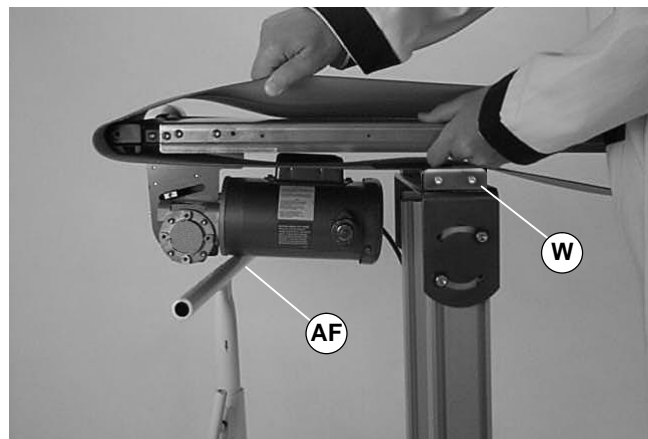

Figure 23
The weight of the gearmotor is all on one end of the conveyor which could cause it to tip off the stands when the mounting clamp plates are loosened. Be sure to provide support (AF of Figure 23) underneath the gearmotor while changing the belt.
6. Temporarily support conveyor at gearmotor mounting package (AF of Figure 23).
7. Loosen the mounting clamp plates (W of Figures 23 and 24), on both sides of the conveyor. Raise the conveyor and remove the belt.
2. Loosen the mounting clamp plates (W of Figures 23 and 24), on both sides of the conveyor. Raise the conveyor and replace the belt.
4. Tighten clamp plates screws (W) to 9 Nm.